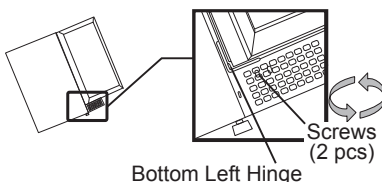

Figure 6
7. Insert top hinge pin into bushing in top left hand corner of door then slide pivot plate onto bottom hinge. Secure with the two screws from bottom. (See Figure 6.)